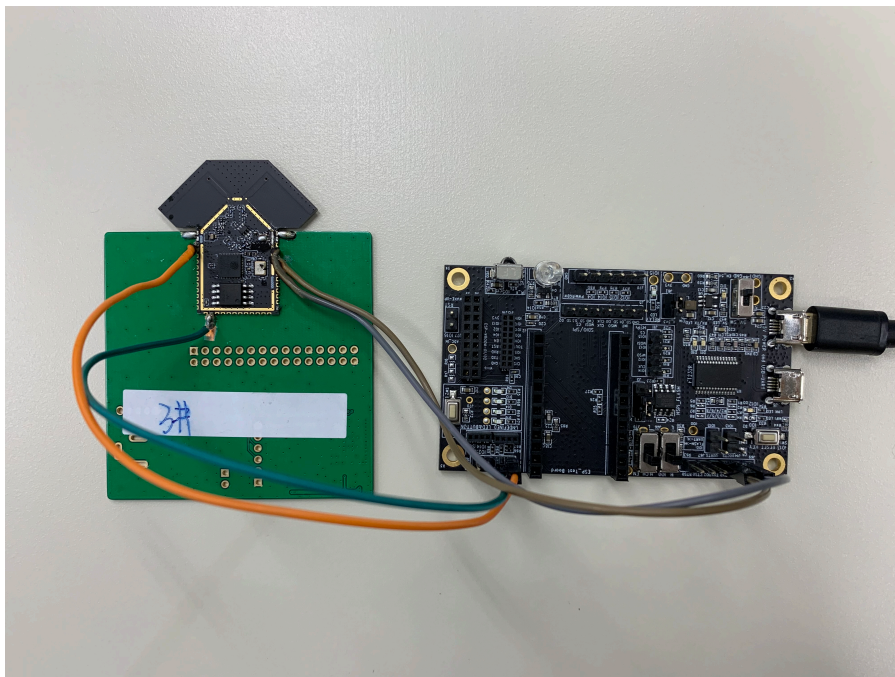

Figure 2: Hardware Connection
1. Solder the ESP32-WROOM-DA module to the RF testing board as shown in Figure 2.